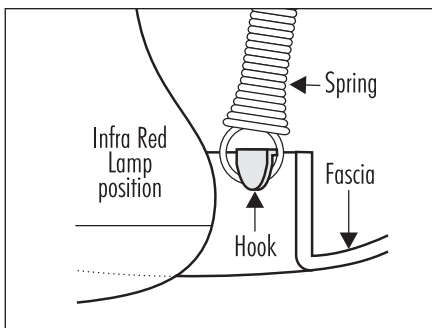

Fig. 11 – 11303, 11311, 11312, 11317 and 11332
1. Models 11303, 11311, 11312, 11317 and 11332, remove lamps and centre globe to fit fascia into position and hook coil-spring onto fascia as per Fig. 11. Models 12301 and 12303 have snap fit fascia, however the lamps and centre globe must be fitted in these models prior to the fascia. The legs of the lamp surround must rest freely on the ceiling. A clearance of approximately 3-5 mm should exist between the ceiling and outer rim of surround.